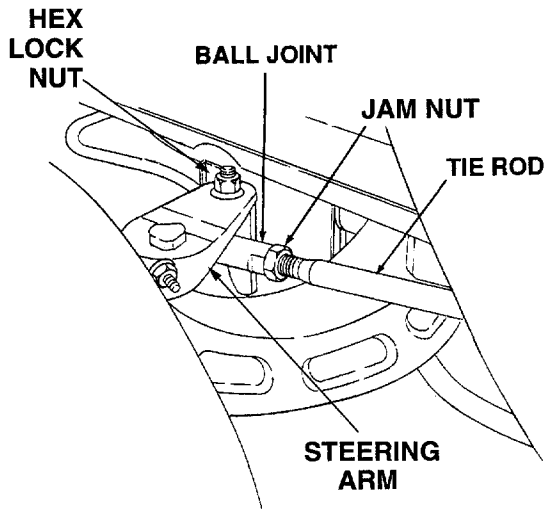

Figure 14
To adjust the toe-in, disconnect the front ball joints from the steering arms by removing the hex lock nuts (Refer to Figure 14) and proceed as follows:
6. Loosen the jam nuts from the ball joints (See Figure 14).